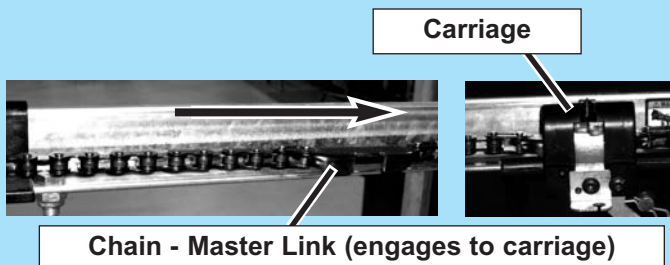

FIG. 6-2 Engage Chain to Carriage.
1. Press and hold the "Close Travel Limit"  button until the chain advances and engages carriage (Fig. 6-2).